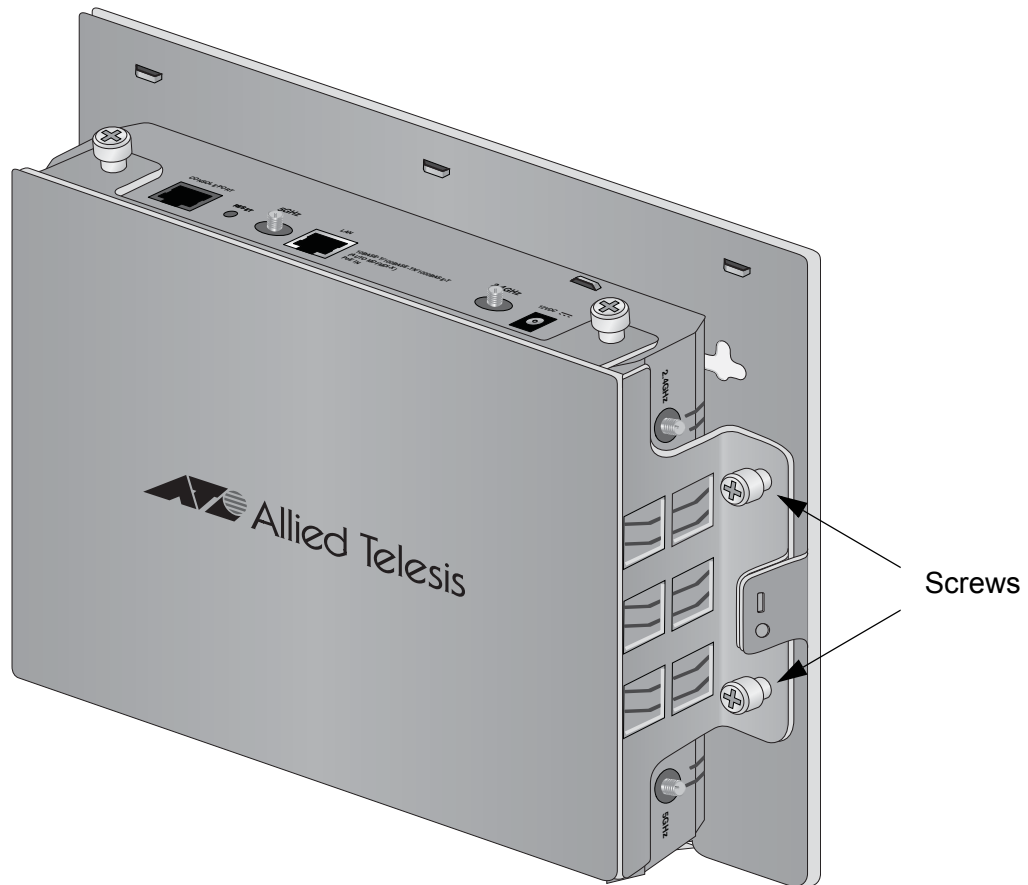

Figure 22. Tightening the Screws to Secure the Top Panel and Access Port to the Bottom Panel
5. Secure the top panel and access point to the bottom panel by tightening the two captive screws on the top panel. Refer to Figure 22.